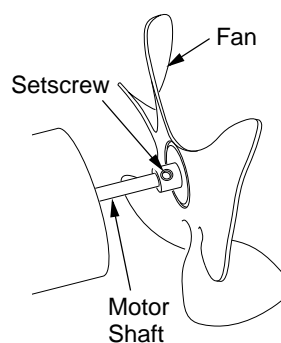

Figure 5 - Fan, Motor Shaft, and Setscrew Location
**IMPORTANT:** Remove fan from motor shaft before removing motor from heater. The weight of the motor resting on the fan could damage the fan pitch (see Figure 5).